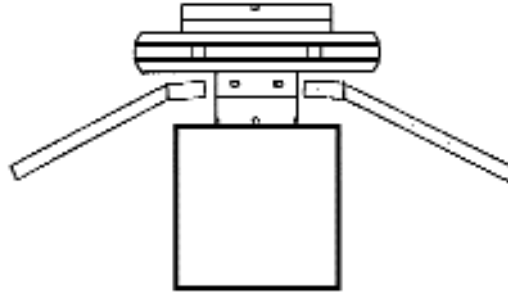

Figure 4: Impeller Removal Example
1) Pull impeller (7) from internal magnet (8). If impeller does not pull off, insert the boxed end of two wrenches between the impeller and the internal magnet. These ends should be cushioned so as not to deform the impeller or the internal magnet. Apply force on the wrenches against the impeller to pop the impeller from the internal magnet. Placing the assembly on a raised surface may provide additional leverage (*see figure 4*).